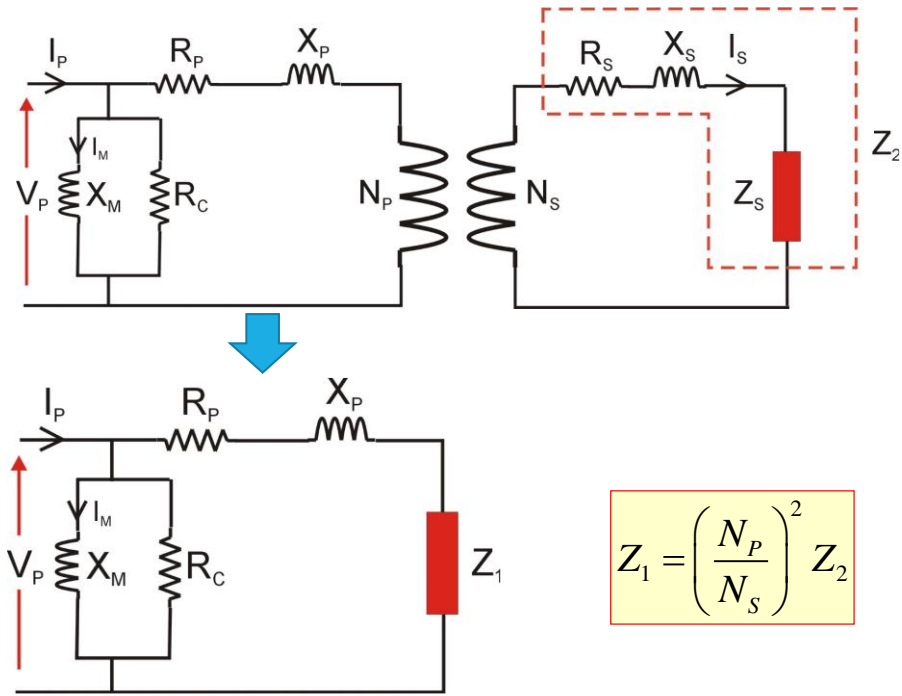
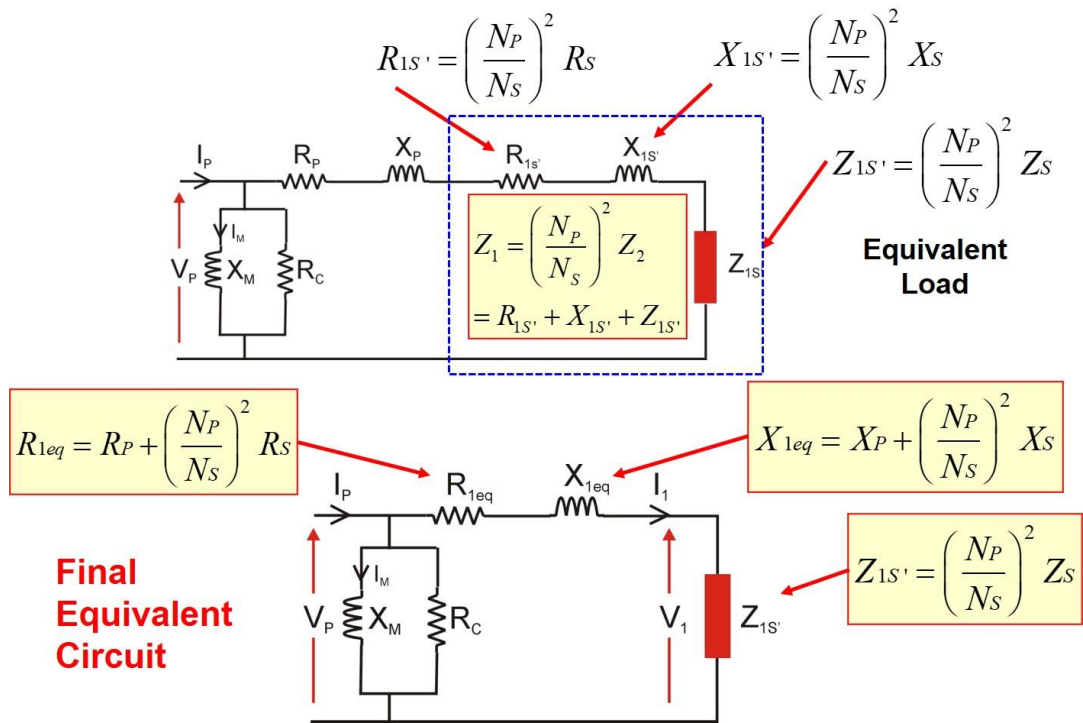

Figure 6. Refer to primary side of transformer
Figure 7. Final equivalent circuit referred to primary.
Using Equation (4) we can now refer all the components on the secondary side to the primary side as depicted in Figure 6. A final equivalent circuit referred to the primary is shown in Figure 7.